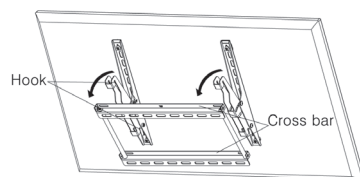
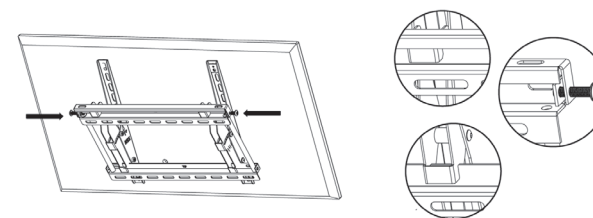

fig. 4
fig. 5
Lift the display unit to the cross bar of the wallplate (A), and then lower the unit into place until the hooks are fully seated in the cross bar of the wallplate assembly, as fig. 4. Reinstall the lock plate to the wall plate with a screwdriver, see fig. 5, then lock the locking gate to prevent the monitor brackets (B,C) falling off the wall plate (A).